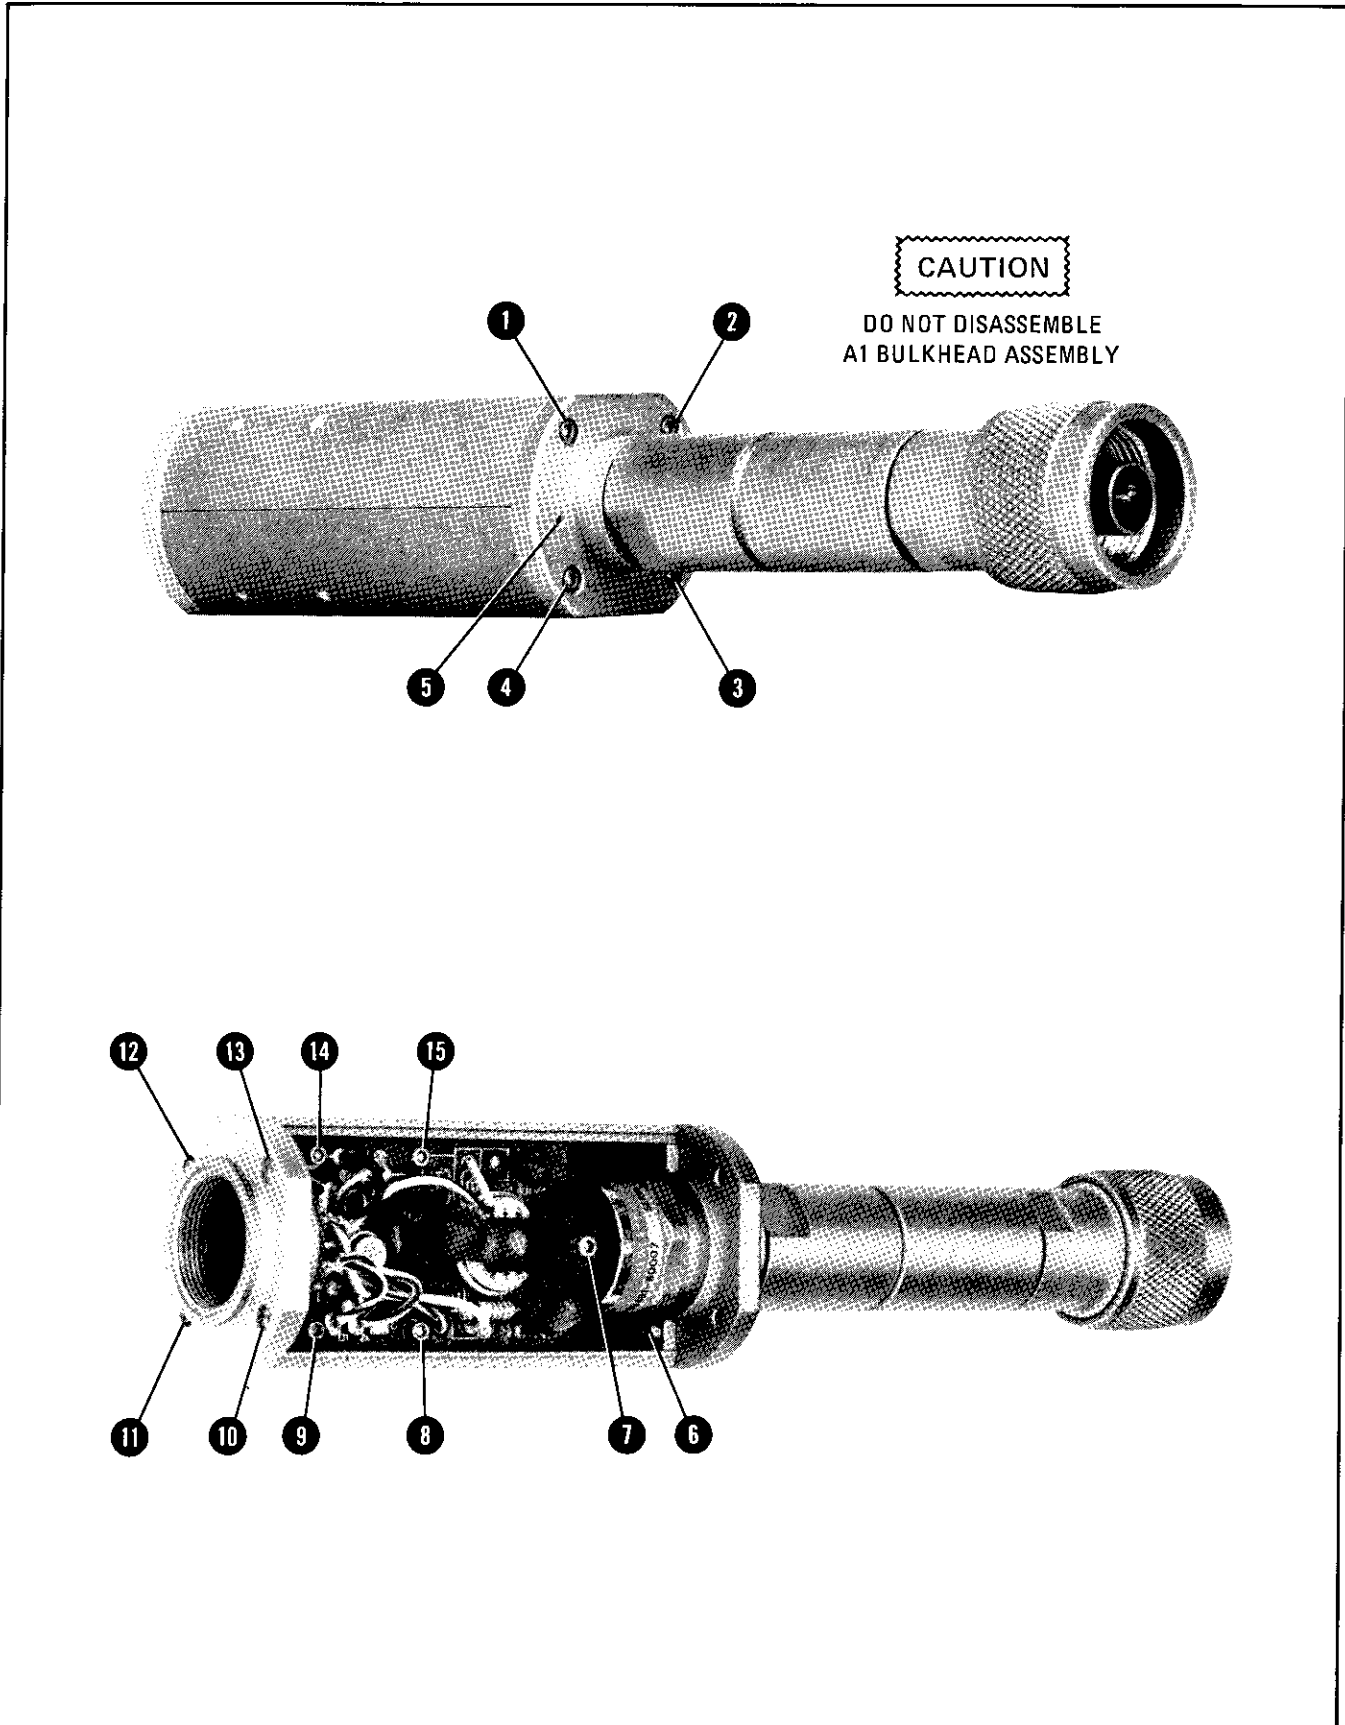

Figure 6. Power Sensor Hardware Locations
- c. Position the Power Sensor as shown in Figure 6 (top). The small hole 5 should be on the left side of the RF input connector. Remove the allen cap screws 1, 2, 10, and 13. Loosen 11 and 12. Remove the upper chassis from the Power Sensor.
b. Cap screws 8, 9, 11, 12, 14, and 15 must be inserted but not tightened. Refer to Figure 6.